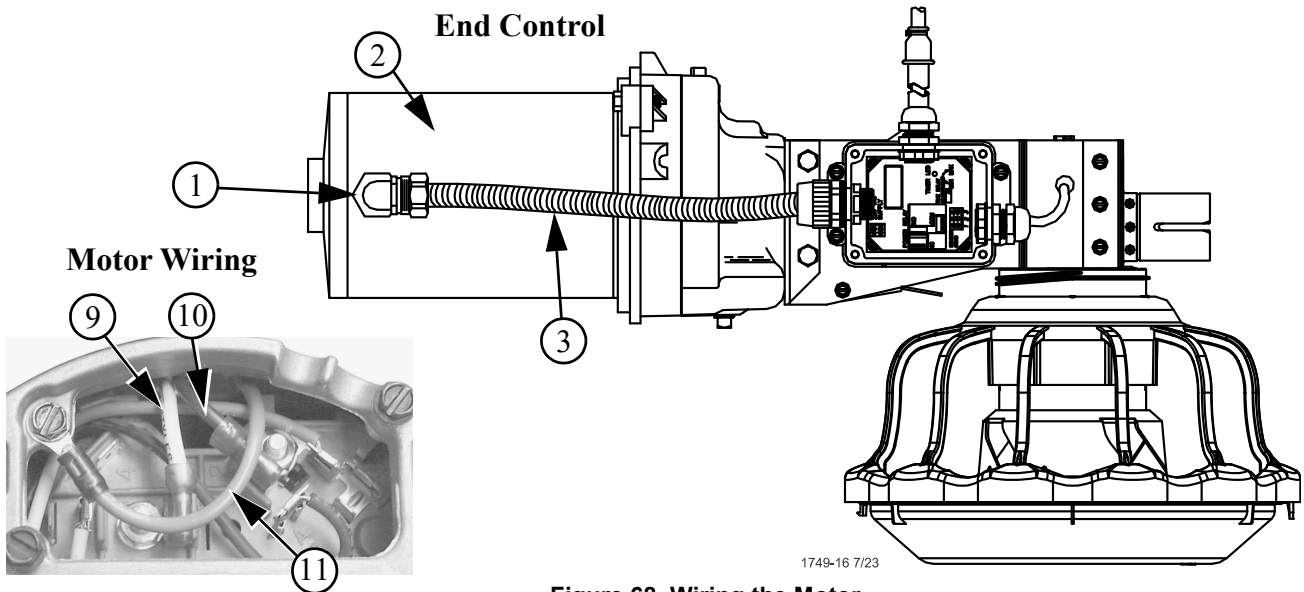

Figure 68. Wiring the Motor
8. Install the Metal Water Tight Connector (item 1) in the Feed Line Motor (item 2). Cut the Flex Conduit (item 3) to length. Slide the wires from the end control through the Flex Conduit (item 3). Install the Flex Conduit (item 3) in the connectors. Connect the wires to the Feed Line Motor (item 2) (See Figure 68.)